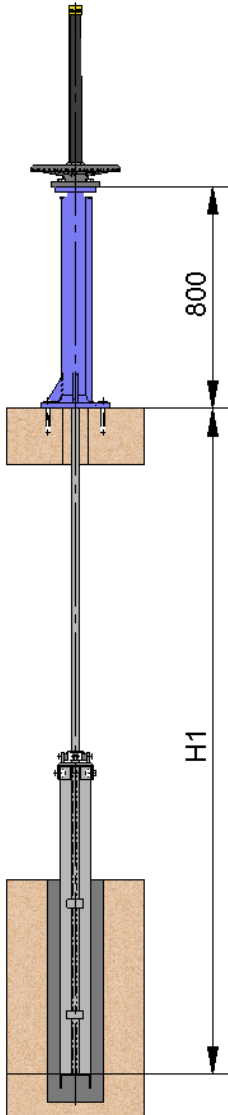

fig. 12
- The standard floor stand is 800 mm high (fig. 12). Other floor stand measurements available to order.